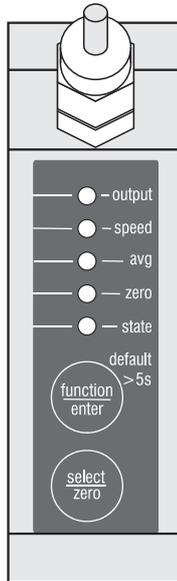

Fig. 20 Top view of the optoNCDT1700
- Watch the “State“ LED on the top side of the sensor, see Fig. 20.
- The “State“ LED illuminates yellow, see Fig. 20.
The LEDs on the sensor, see Fig. 20, have different indicator functions depending on whether the sensor is in measurement mode or setup mode.